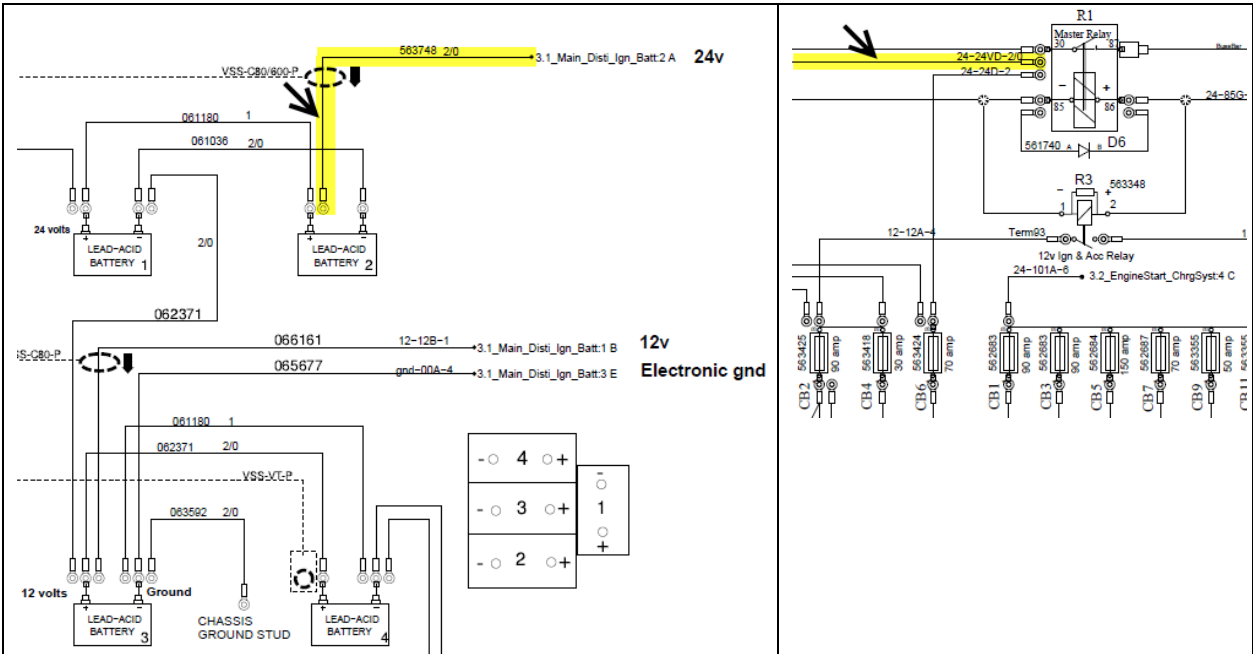

Figure 7
- In the **battery compartment** between **battery and master relay R1** (Figure 7).